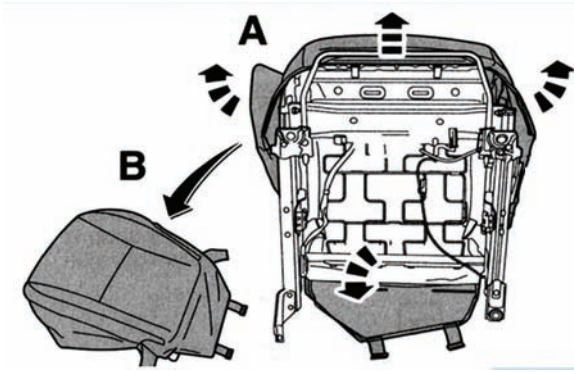

Figure 1
6. Unsnap j-clips and or remove "hog ring" clips and peel back cover. Refer to Figures 1 and 2.